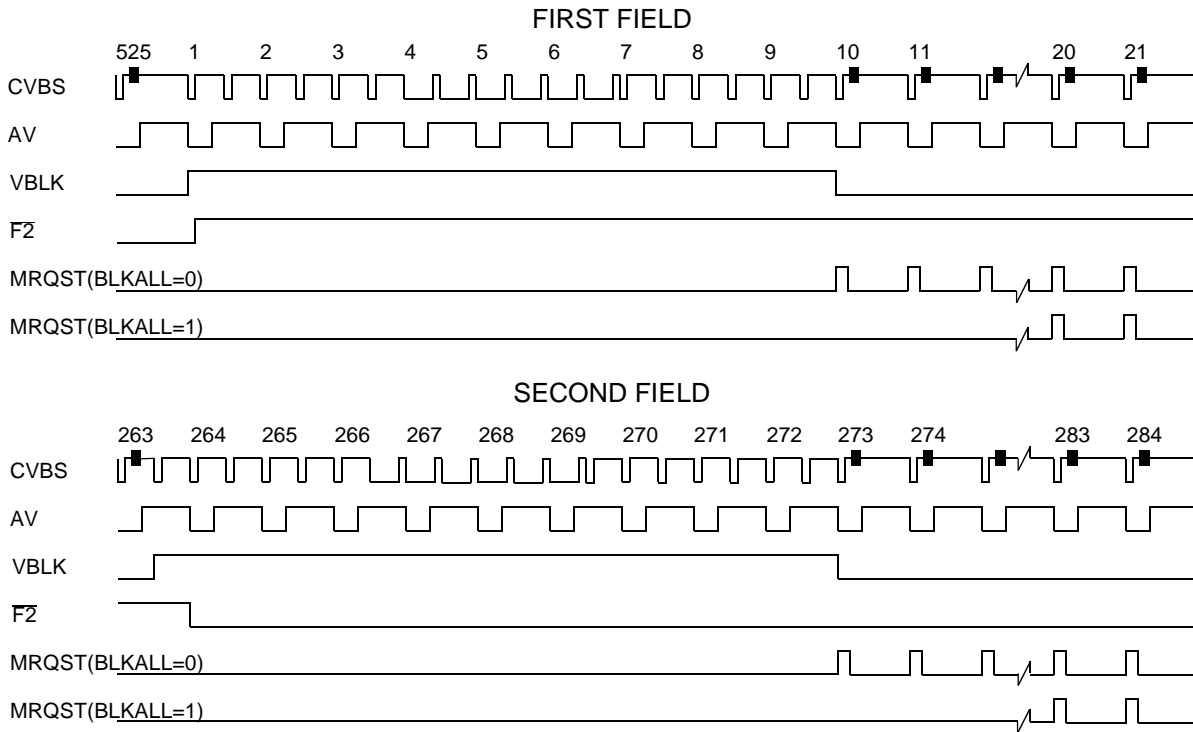

Figure 9. NTSC Output Timing
The KS0119 can operate in either slave or master mode. In slave mode, the chip uses two external input signals, active video (AV) and vertical blank (VBLK), to synchronize the internal operation. In master mode, however, the chip outputs these two signals. The chip generates two additional signals: Memory Transfer Request (MRQST) and field two indicator ( $\overline{F2}$ ), which can be used to simplify the interface to an external frame buffer controller. Figure 9 shows the timing waveform for the NTSC output mode.